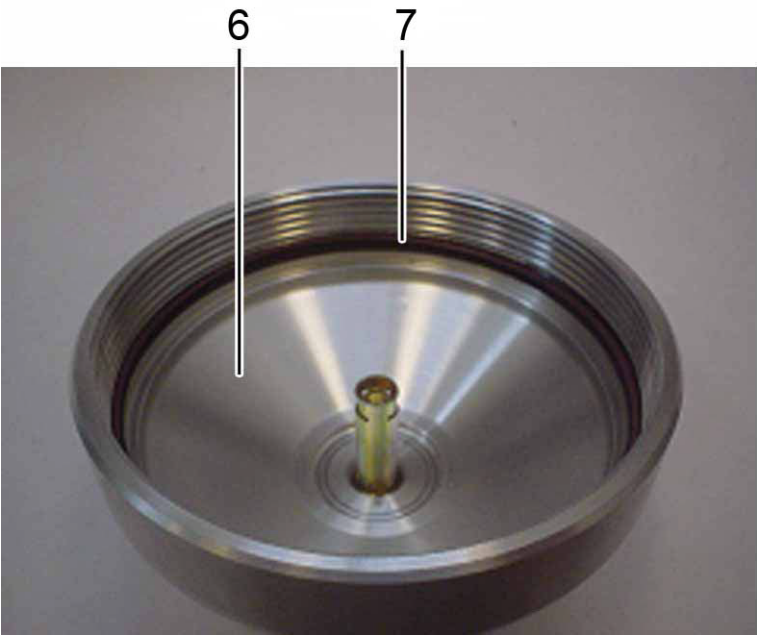

Fig. 28-8a Bottom Lid with O-ring
- (2) Replace the O-Ring (6) in the bottom lid (5), carefully seating it in the groove. Stretching the ring a little helps to retain it in the groove. See Fig. 28-8a.
- (3) Insert the new fuel filter cartridge into the fuel filter. Ensure that the open end of the lid faces up into the housing.
- (4) Carefully screw the bottom lid (5) onto the fuel filter housing (2), ensuring the spring seats correctly both in the lid and the fuel filter cartridge. Tighten the lid using a 27 mm oil filter socket wrench (short socket).